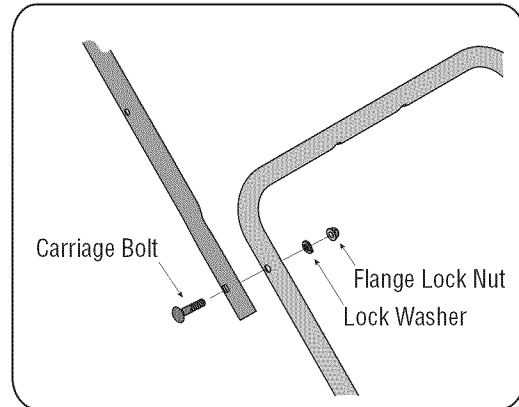

Figure 4: Attaching upper handle to lower handle.
2. Secure the upper handle to the lower handle using the carriage bolts, lock washers, and lock nuts from group 2 of the hardware pack. See Figure 4.